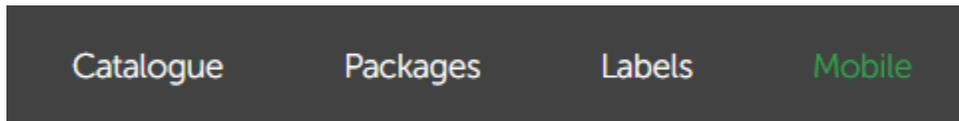

Figure 23: Main Menu Mobile link
1. Navigate to Mobile - **see Figure 23.**